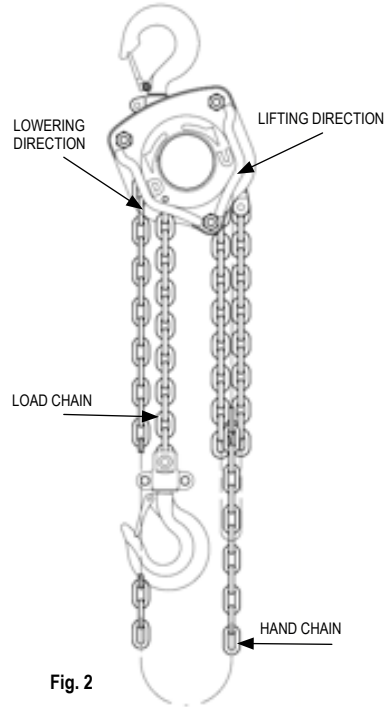

Fig. 2
- Pull the hand chain in the lifting direction (to shorten the chain) or in the lowering direction (to lengthen the chain). Lifting / lowering directions ("U" / "D"), are directly embossed on the hoist body (fig.2).